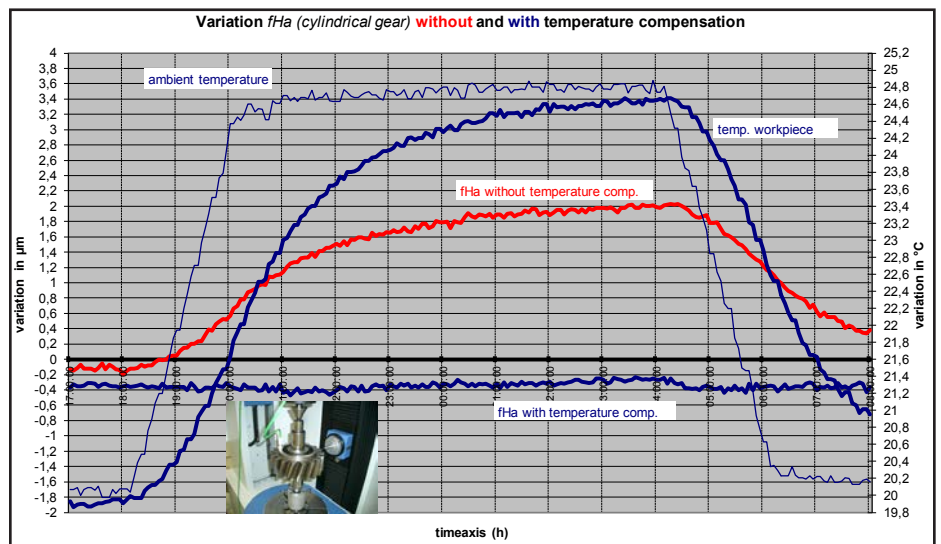

Figure 3 Temperature compensation test results.
- Integrated temperature sensors measure the ambient temperature and the temperature of the measuring device. Combined with a software compensation model, the measuring accuracy remains nearly constant over a broad temperature range (64.4°F–86°F). A test conducted over 12 hours comparing measurement results with and without temperature compensation is shown in Figure 3.